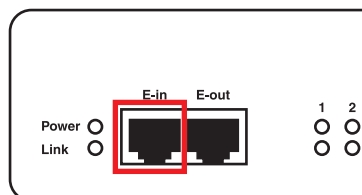

Figure 3-2. E-in port.
2. Connect the other end to the “E-in” port on the expansion module. See Figure 3-2.